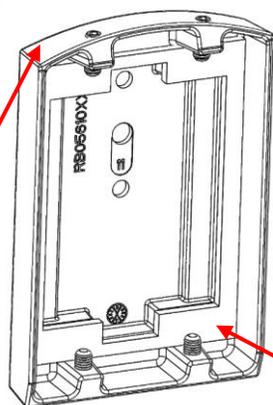

Figure 7
3. Wall mount bracket cover with preinstalled gasket, see figure 7
Step 3: Prepare the cover plate by ensuring the factory-installed, black foam gasket is in place on the backside of the cover plate (See Fig 7) NOTE: For the next steps the curved portion of the cover plate should point upwards when mounted to the wall as shown in figure 9